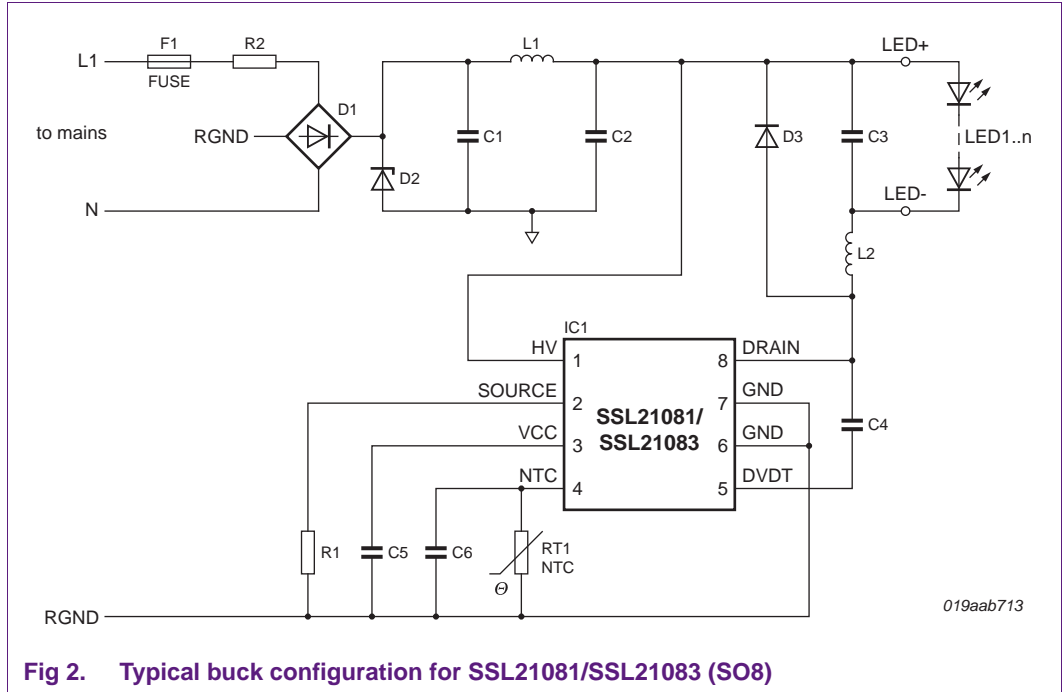
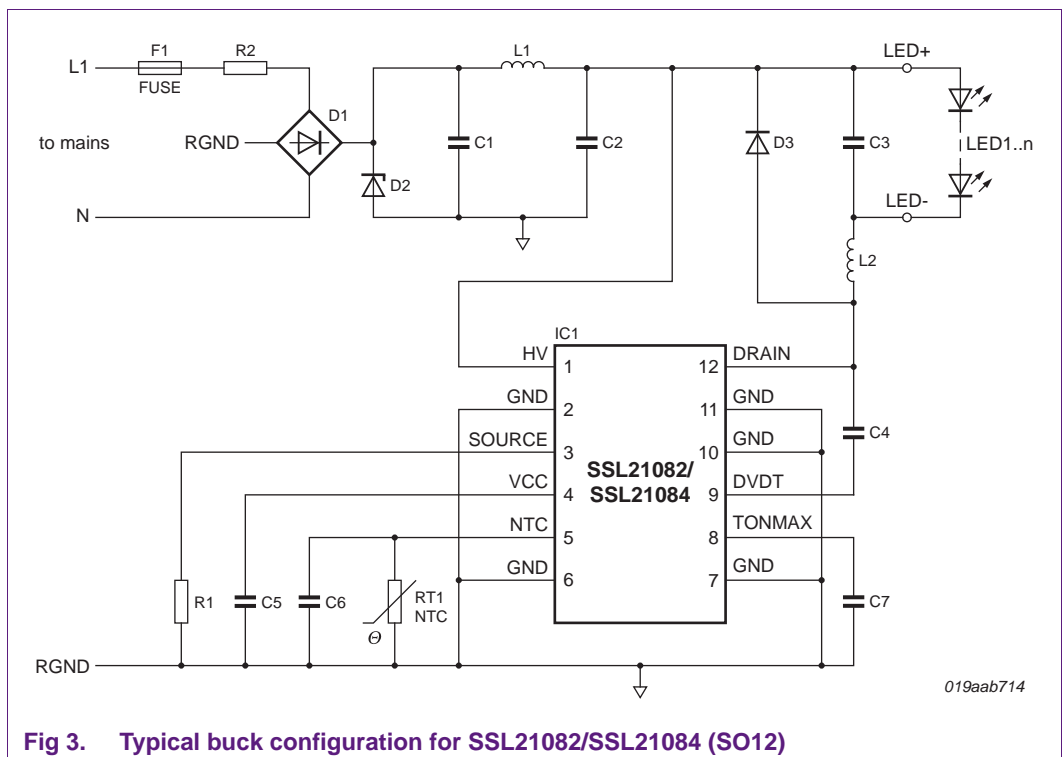

Fig 2. Typical buck configuration for SSL21081/SSL21083 (SO8)
Fig 3. Typical buck configuration for SSL21082/SSL21084 (SO12)
A typical buck application for the SSL2108X platform, driving a single LED chain, is shown in Figure 2 (SO8) and Figure 3 (SO12).
**Remark:** In Figure 2 and Figure 3, the LED string is connected above L2. This is to prevent the LEDs having a voltage variation equal to the drain voltage. As the LED assembly is relatively large with extended wires and a heatsink, it has substantial capacitive coupling compared to its surroundings. This capacitive coupling would have a detrimental effect on efficiency and EMC.
The starting parameter, for designing a circuit as shown in Figure 2 and Figure 3, is the required LED current ( $I_{LED}$ ) and the LED voltage ( $V_{LED}$ ). Assuming the converter works exactly in boundary conduction mode, the relationship between output current and inductor peak current ( $I_{peak}$ ) is:
The same inductor is used (L2 in Figure 2 and Figure 3) to charge and discharge energy, so there is a direct dependency between  $\delta 1$  and  $\delta 2$ , the LED forward voltage and input voltage:
The crest factor C is the ratio between peak current and average current. In Figure 2 and Figure 3, the crest factor is normally around a factor 4.
The SSL2108X operates in boundary conduction mode and when the internal MOSFET is switched on, the voltage level on the SOURCE pin increases because the inductor current also flows through the external resistor R1 (see Figure 2 and Figure 3). In these schematics, resistor R1 limits the peak current ( $I_{peak}$ ). When the voltage level over this resistor reaches a threshold, the cycle stops and the switch stops conducting. This threshold can be used to control peak current. Using peak current control, the LED current is half the peak current in BCM mode. In addition, the tolerance on this detection is proportional with the tolerance on LED current. The threshold level is  $V_{th(ocp)}$  and Equation 29 can be used: